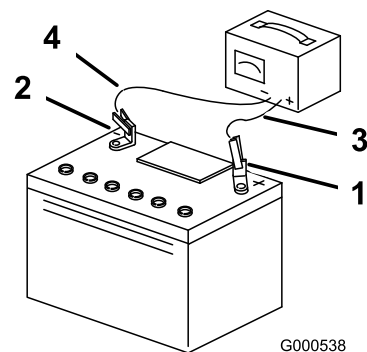

Figure 39
- When the battery is fully charged, unplug the charger from the electrical outlet, then disconnect the charger leads from the battery posts (Figure 39).